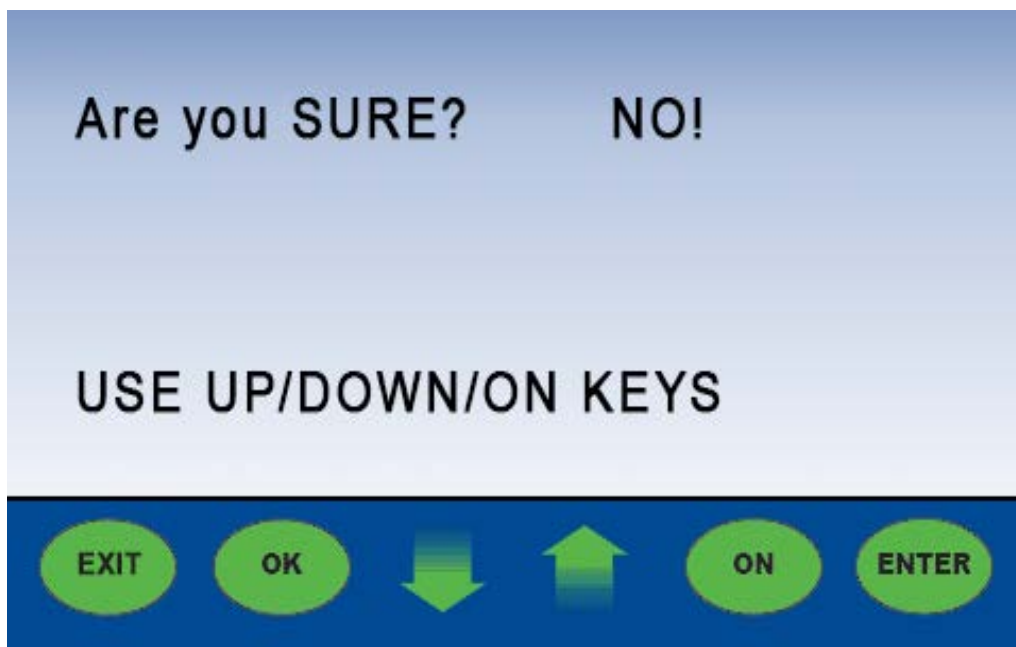

Figure 60
3. Press the **enter button**; the display will read “no”. **(Figure 60 on page 115)**